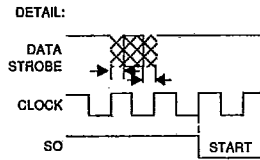

FIG. 2 TRANSMITTER AT START BIT NOT A TEST POINT
- NOTES: SEE FIGURES 2, 3, 4 FOR DETAILS